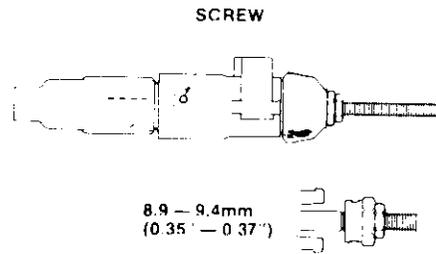
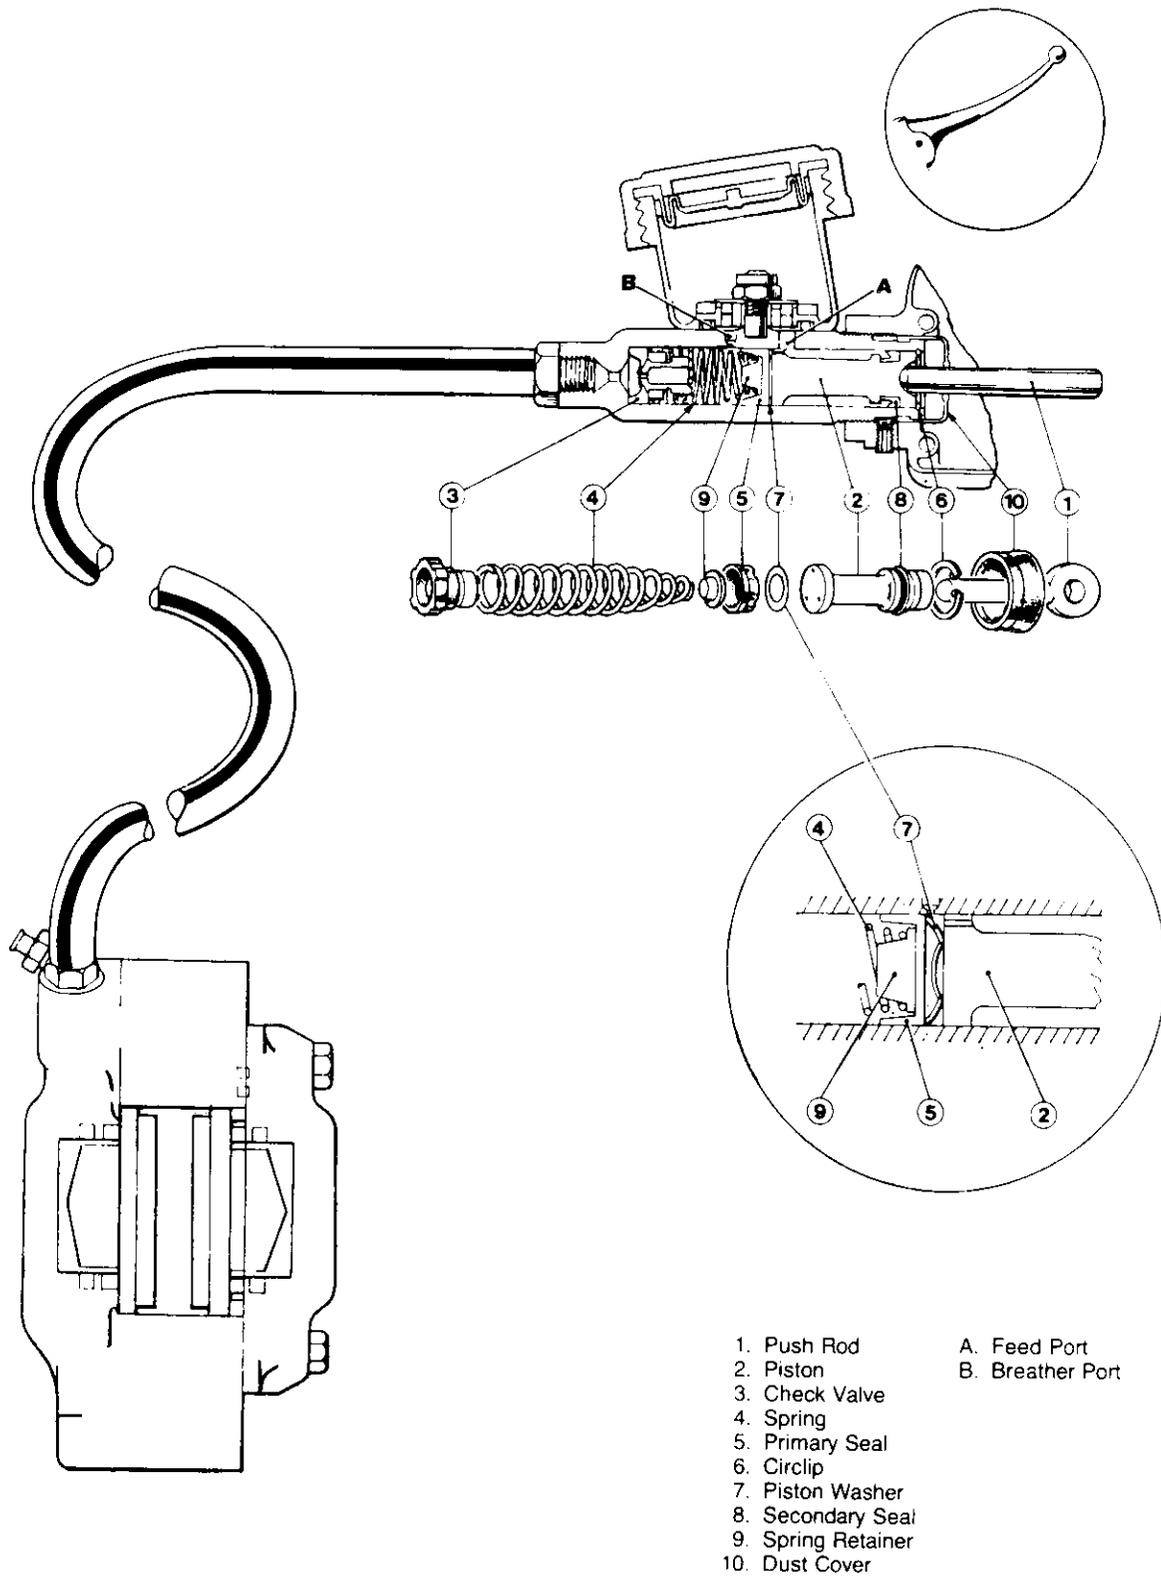

Fig. F12. Push rod adjustment
Fig. F14. Hydraulic flow diagram—front brake
Prior to fitting a new master cylinder check the distance between the end of the cast mounting bracket and the face of the pushrod nut, see Fig. F12. This dimension should be 0.35in. to 0.37in. (8.9 to 9.4mm.) and should be adjusted as necessary.
The master cylinder is mounted in the right hand handlebar electrical switch. It consists of a fluid reservoir bolted to a cylinder body containing a piston, seals and other parts as shown in Fig. F13. With reference to the hydraulic flow diagram (Fig. F14) and the exploded view (Fig. F2) the operation of the cylinder is as follows:— When the front brake lever is pulled on the push rod (1) moves the piston (2) down the bore. The displaced fluid in front of the piston is forced through holes in the check
Fit the secondary seal (8) onto the piston (2) so that the lip of the seal faces towards the head (drilled end) of the piston. See Fig. F13. Gently work the seal around the groove with the fingers to ensure that it is properly seated. Fit the spring retainer (9) onto the small end of the spring (4) and the check valve (3) onto the large end. Insert the spring assembly onto the cylinder bore, large end first. Insert the primary seal (5) into the cylinder bore, lip foremost (See Fig. F7), taking care not to damage or turn back the lip. Insert the piston washer (7) into the barrel with the dished side towards the primary seal (5) (See Fig. F14) followed by the piston, head (drilled end) innermost, see Fig. F12. Push the piston inwards with the end of the push rod and refit the circlip (6). Make sure that the circlip beds evenly in its groove. Refit the boot (10) by stretching it over the barrel. Refit the reservoir bowl, (tighten the securing nut to a torque of 4 to 7lbs. ft. (6 to 7Nm.) not forgetting the 'O' ring and test the cylinder by filling the reservoir and pushing the push rod and piston inwards and allowing it to return unassisted. After a few applications fluid should flow from the outlet connection at the cylinder head.
If necessary refit the return spring. Empty the cylinder of fluid and proceed to re-assemble the cylinder barrel into the switch housing. At this stage the final position of the cylinder barrel in the housing must be determined. Here reference must be made to Fig. F14. It will be observed from Fig. F14 that the lip of the primary seal (5) must be 1/16 of an inch behind the breather port and the reservoir set at an angle of 10° to the vertical. The milled flats on the threaded end of the cylinder are machined relative to the 10° position and the appropriate one must be used when assembly takes place.